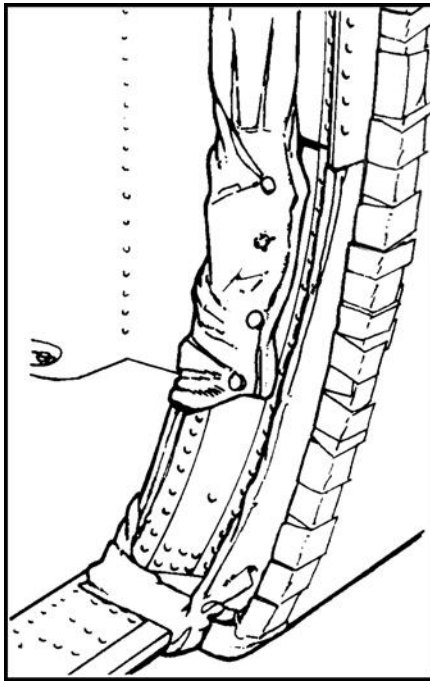

Figure 17-8. UH-60A door edge padded and taped.
- (2) Remove seat belts in the cargo compartment (except as required by aircraft crew).
- (3) Tape cargo floor troop seat and tie-down fitting wells in front of the cargo doors.
- (4) Tape sharp edges and tie-down fitting wells on the cargo floor and door jambs that could cut or fray static lines or snag parachutists' equipment.
- (5) Tape the weather stripping on cargo doors below the door catch (Figure 17-8).
- (6) Tape the entire trail edge of the door.